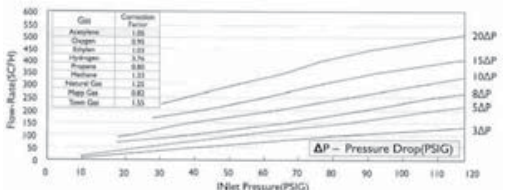

Figure 1
- Never disassemble or repair a flashback arrestor. Flashback Arrestors use an internal flame trap to stop a flashback. The flame trap is designed to restrict flow thereby creating a pressure drop. Consult the Flow Specification Chart (Figure 1) which provides information to help determine how to compensate for this drop in pressure.